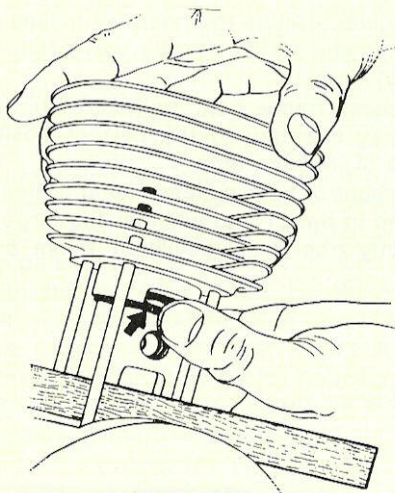

fig. 16
- support piston using a forked piece of wood (nr. 27 on page 13) as illustrated in fig. 16, which greatly facilitates the fitting of the cylinder and apply oil lavishly on piston and in barrel
- fit barrel and be sure that locating pegs in piston are indeed inside ring gap (fig. 16)